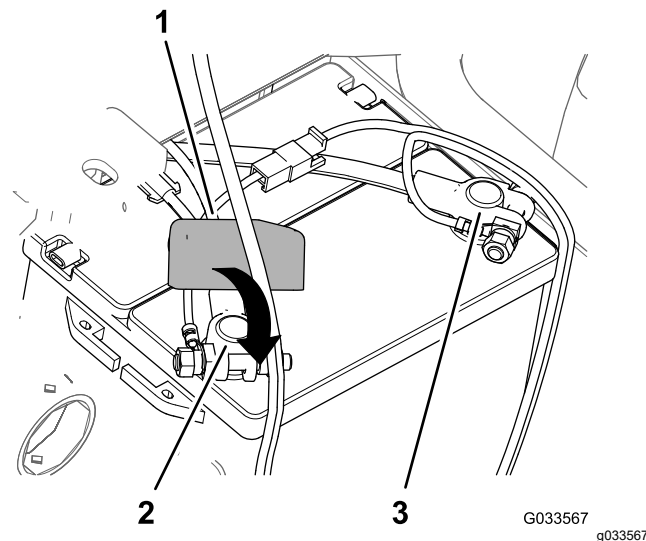

**Figure 31**
6. Secure the ring terminal of the fusible link (sprayer wire harness) to the post of the terminal bolt that you assembled to the positive battery cable with a clamp nut (Figure 31).
7. Secure the ring terminal of the negative wire (black—sprayer wire harness) to the post of the terminal bolt that you assembled to the negative battery cable with a clamp nut (Figure 31).